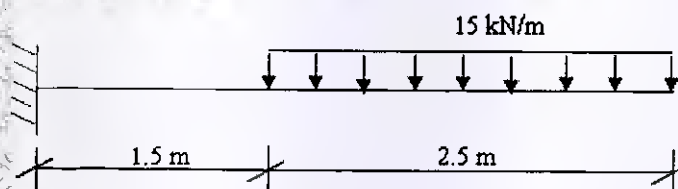

Figure 2
- b) Analyse the beam as shown in the figure 2 using Conjugate Beam method and hence find the maximum Slope and Deflection. Use $E = 210 \text{ GPa}$, $I = 5 \times 10^6 \text{ mm}^4$. Also, draw the deflected shape of the structure.